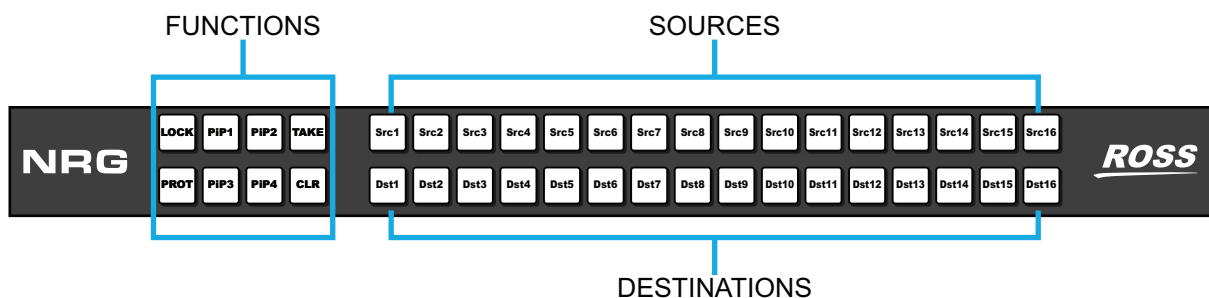
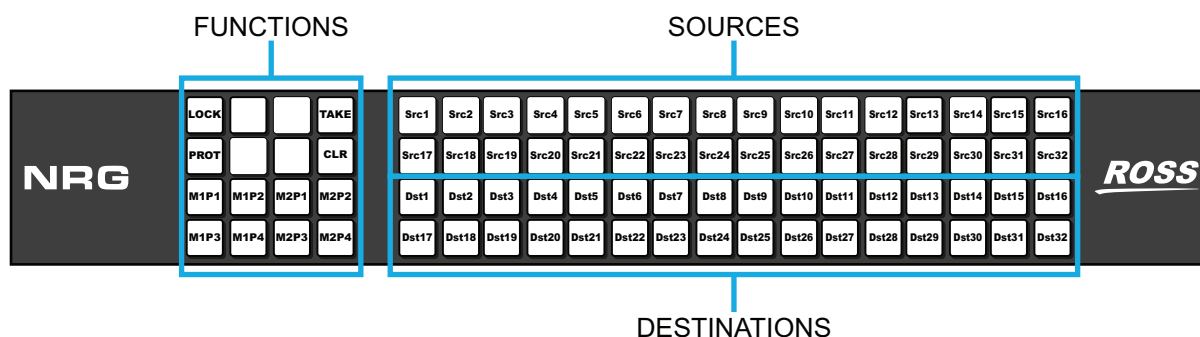

Figure 36 NRG-FR1-LCP Front Panel — Default Button Configuration
Figure 37 NRG-FR2-LCP Front Panel — Default Button Configuration
The number of function buttons depends on the router type. The NRG-FR1-LCP (**Figure 36**) provides 8 function, 16 source, and 16 destination buttons. The NRG-FR2-LCP (**Figure 37**) provides 16 function, 32 source, and 32 destination buttons. By default, each button is configured from the factory. You can choose to keep the default assignments, or reassign to other functions as required.
- ★ The physical buttons do not display a text label. **Figure 36** and **Figure 37** show the default function assignments as a reference only.
The NRG-FR1-LCP is factory configured with the button assignments as depicted in **Figure 36**.
The NRG-FR2-LCP is factory configured with the button assignments as depicted in **Figure 37**.